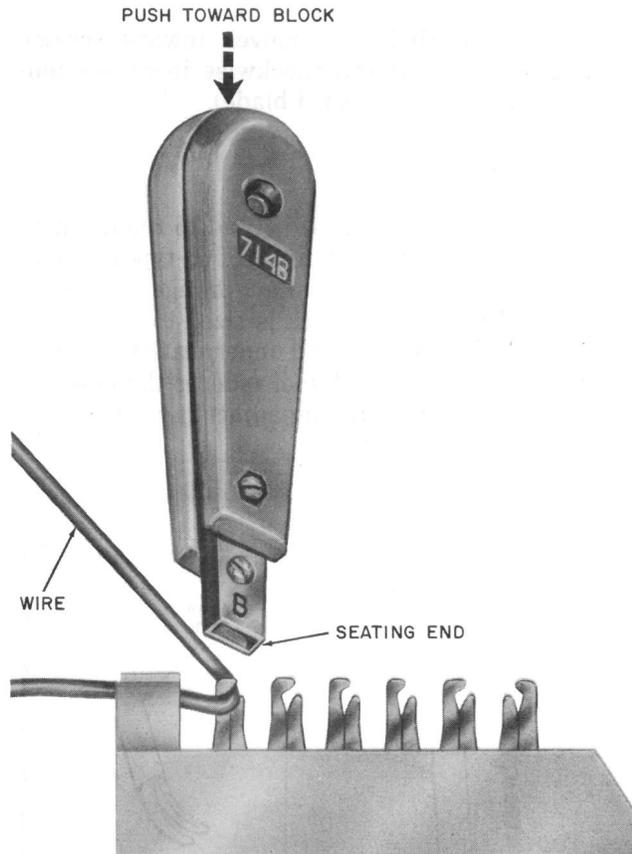

Fig. 5—Preparation for Looping Termination
3.05 To make a **looping termination** on a 66-type connecting block (Fig. 5 and 6), perform the following steps:
Note: The 714B tool is shown in Fig. 5, 6, 7, and 8; the D impact tool is used in the same way.
- (1) Select wire to be terminated.
- (2) Work wire into fanning strip.
- (3) Place wire in hook of terminal, using fingers or long-nose pliers.
- (4) Place seating end (cutting end of blade turned into handle) of 714B or D impact tool over terminal (Fig. 5).